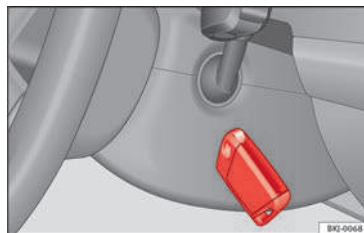

Fig. 150 On the right of the steering column: emergency start.
- Immediately after pushing the starter button, keep the vehicle key next to the right trim of the steering column **»** Fig. 150.